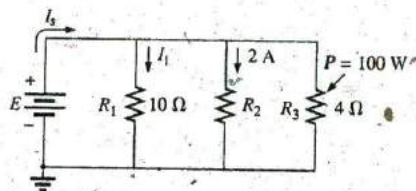

FIG. 6.84
14. Use the information in Fig. 6.84 to calculate: